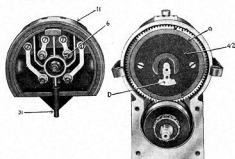

Fig. 23
2. Refer to Fig. 23. Note the punch marks on the distributor gear with the letters "C" and "A" over them. For clockwise rotation place the *beveled tooth* on the armature gear directly opposite